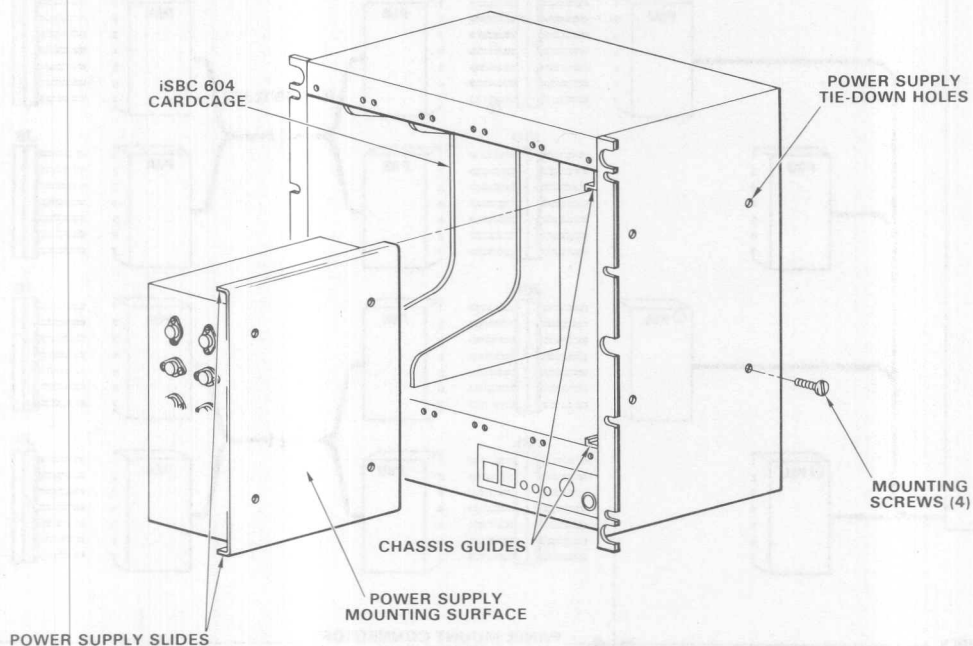

Figure 2-7. Power Supply Mounting
- 3) Position the power supply in front of the chassis as shown in figure 2-7. Notice that the mounting surface on the power supply is oriented away from the cardcages.